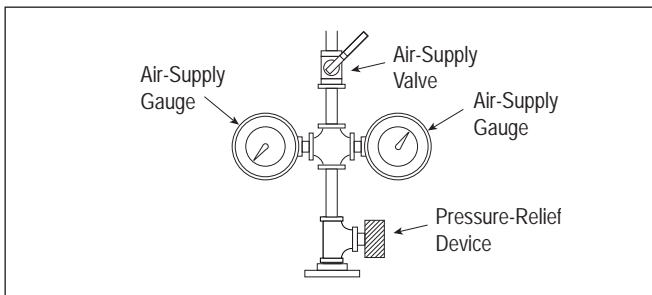
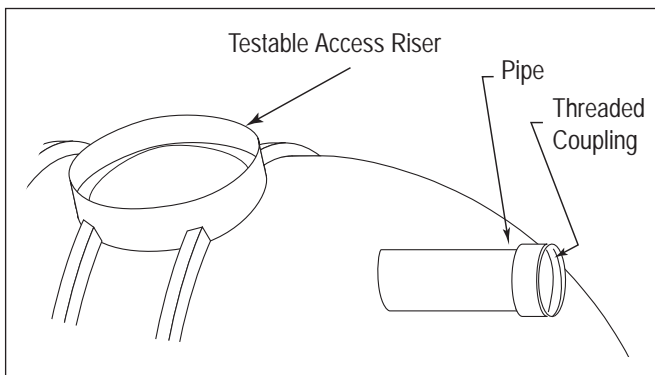

FIGURE 1-1
FIGURE 2-1
1.3. Construct a test manifold with two air-supply gauges as shown in FIGURE 1-1. Each air-supply gauge must have a maximum full-scale reading of 15 psig with 1/4-lb. or 1/10-lb. increments, and a pressure-relief device set at 6 psig [4 psig for 12-foot-diameter tanks].
- 2.3. Install the test manifold in the NPT threaded coupling of the influent pipe. Use an NPT reducer bushing as necessary. Connect the pressure source to the test manifold. See FIGURE 1-1 and FIGURE 2-1.
- 3.2. If not needed, cut off the cap or threaded coupling from each pipe end so that service pipes can be added. Cut as close as possible to the pipe cap or threaded coupling. See FIGURE 2-1.